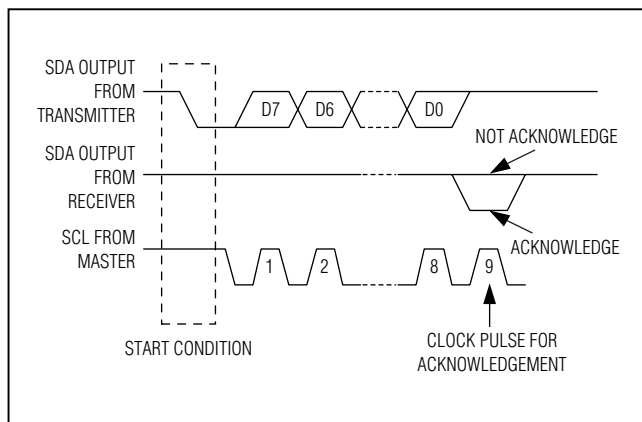

Figure 13. I²C Acknowledge
Both the master and the ICs (slave) generate acknowledge bits when receiving data. The acknowledge bit is the last bit of each 9-bit data packet. To generate an acknowledge (A), the receiving device must pull SDA low before the rising edge of the acknowledge-related clock pulse (ninth pulse) and keep it low during the high period of the clock pulse (Figure 13). To generate a not acknowledge (NA), the receiving device allows SDA to be pulled high before the rising edge of the acknowledge-related clock pulse and leaves it high during the high period of the clock pulse.